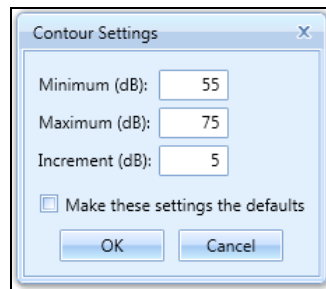

Figure 5-16 Contour Settings Dialog
3. The *Contour Settings* dialog is displayed (Figure 5-16).